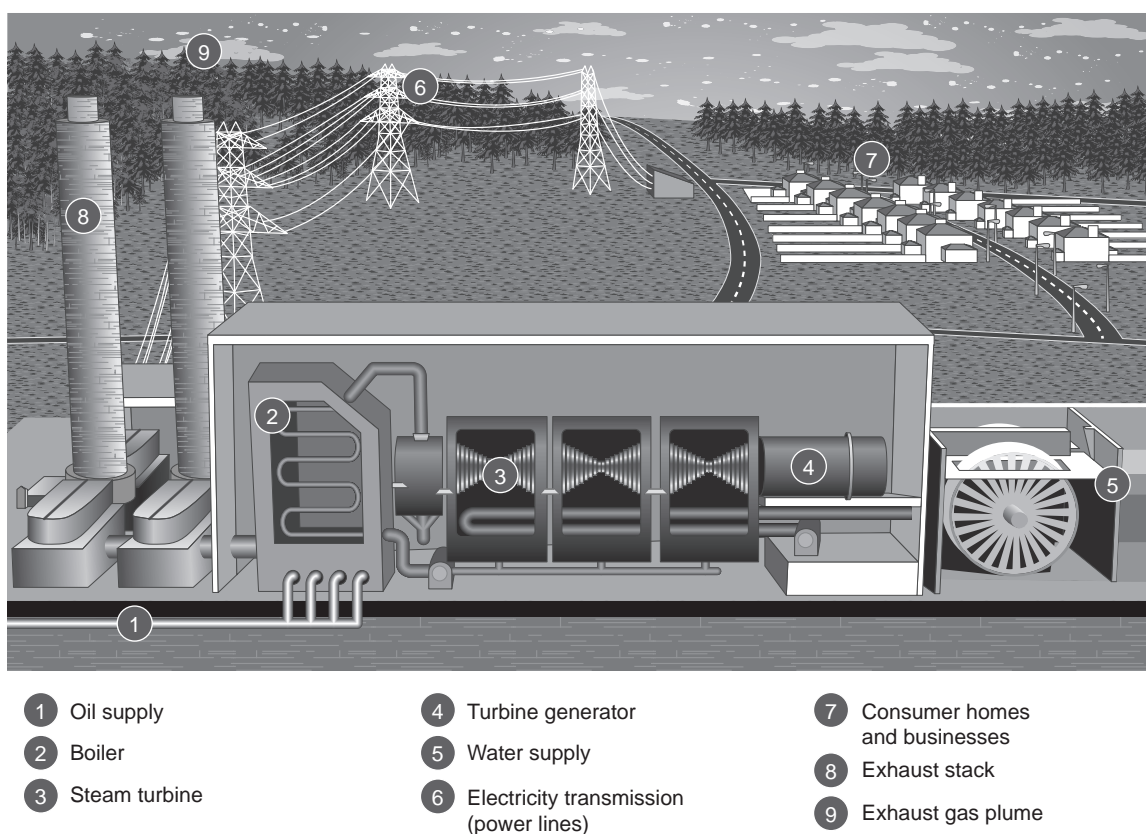

Figure 22.2
An oil power station turns the chemical energy in oil into electrical energy that can be used in homes and businesses. In Figure 22.2, the oil (1) is piped into the boiler (2), where it is burned, converting its chemical energy into heat energy. This heats water in pipes coiled around the boiler, turning it into steam. The hot steam expands in the narrow pipes, so when it emerges it is under high pressure.